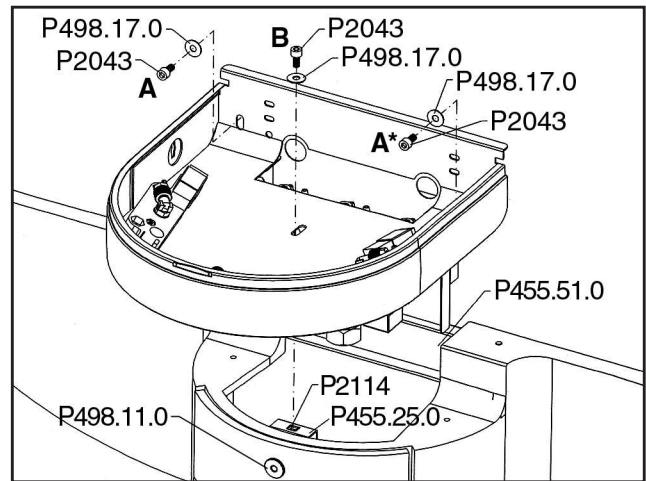

Figure 2
- D) Unscrew A, A\* and B and remove the whole pre-assembled distribution head (figure 2).